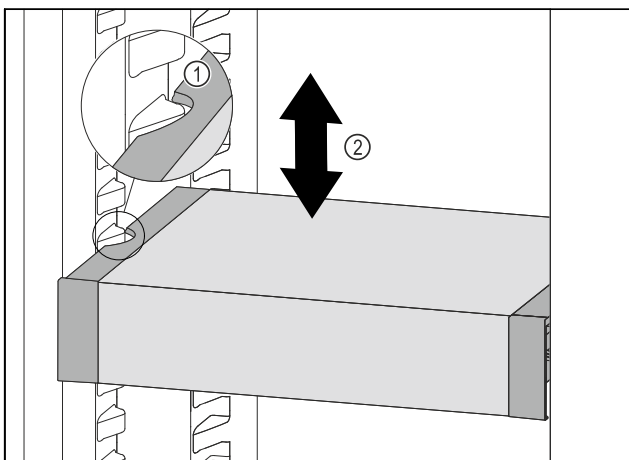

Fig. 165
- ▶ Pull VarioSafe forwards until the recesses in the side of the VarioSafe are at the level of the support rib in the refrigerator compartment. *Fig. 165 (1)*
- ▶ Move VarioSafe up or down in the refrigerator compartment until the desired height is reached. *Fig. 165 (2)*